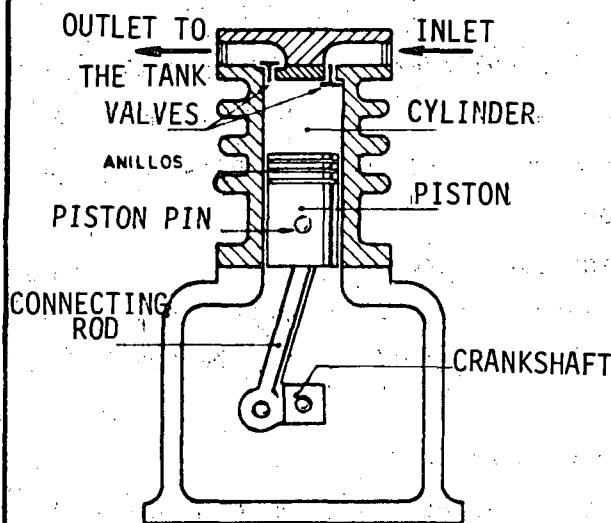

Fig. 2
- Alternating compressors (fig. 2).